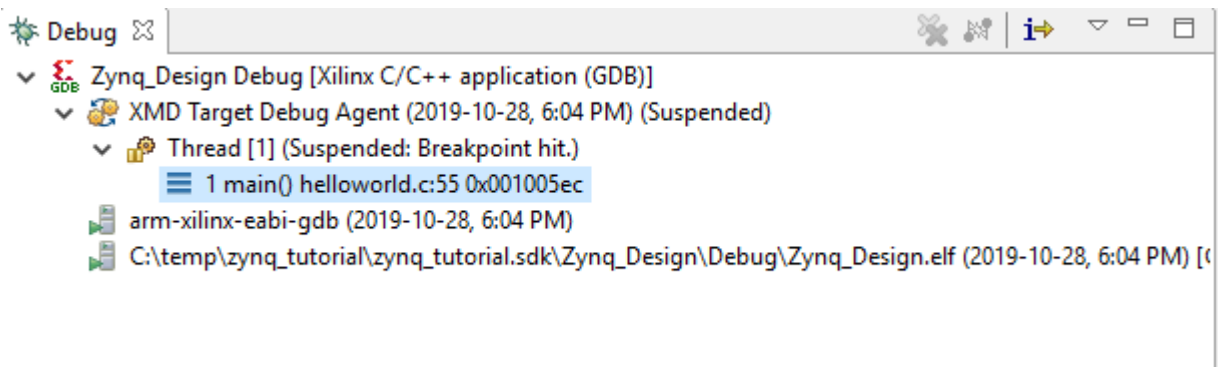

Figure 35: Terminal connection verification.
15. In the **Debug** tab, expand the tree, and select the processor core on which the program is to be run (Figure 35).